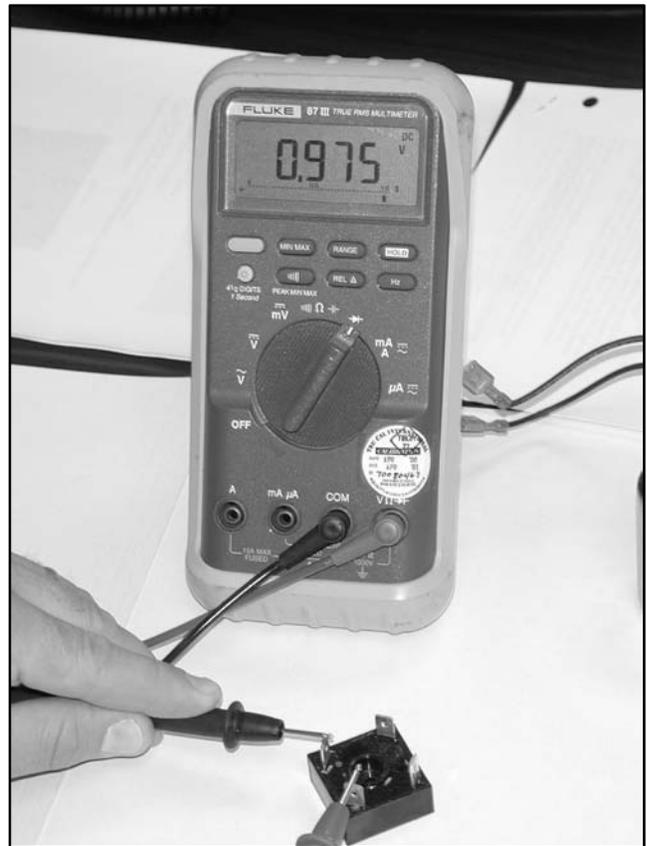

Figure 5-21 Checking Rectifier Diode Operation
- Check the diode operation of the rectifier. See Figure 5-21 and Section 4.4 for rectifier test instructions. If the rectifier is bad, replace it. If the rectifier is good, proceed to step 9.